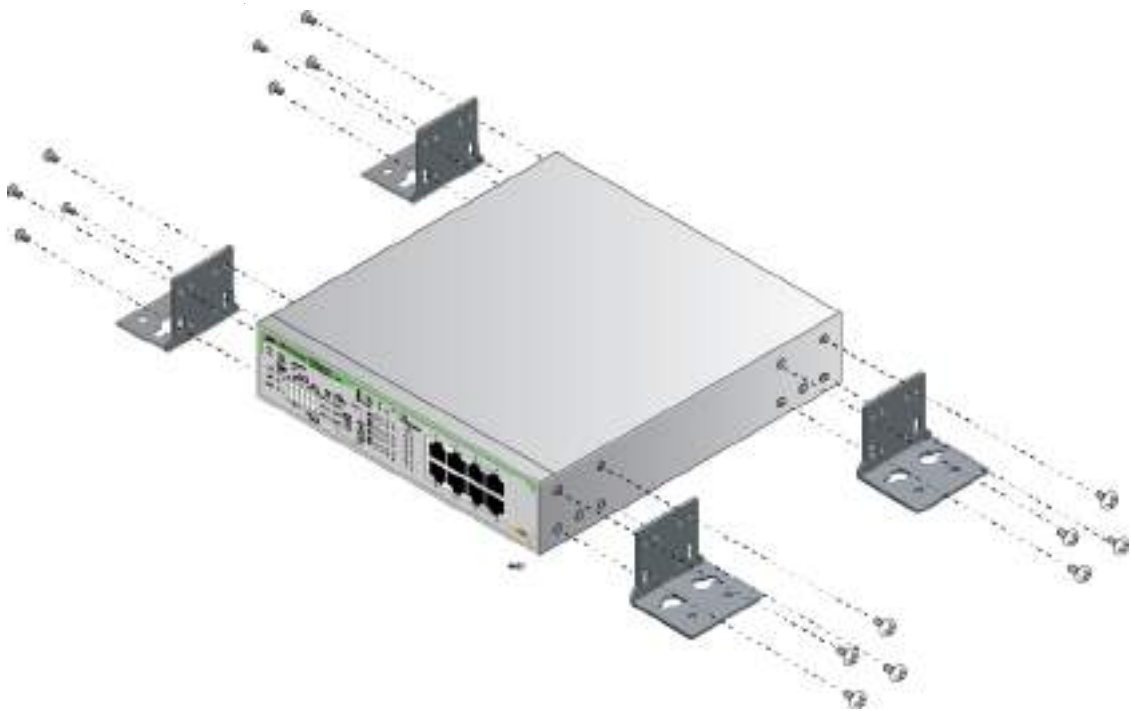

Figure 40. Attaching the Wall Brackets
2. Attach each bracket to the switch using four screws as shown in Figure 40.